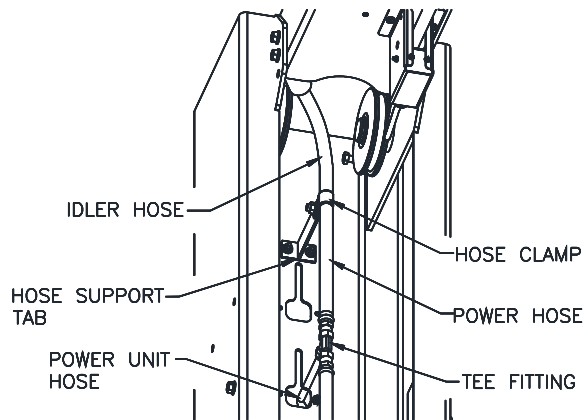

Fig. 16 – Power Side Hose Routing
- 42) Tighten the three hose fitting connections at the Tee taking care not to twist or change the lay of any hose. Install and tighten the "P" clamp on the power side to hold up the connection to the tee, see **Fig 16**.